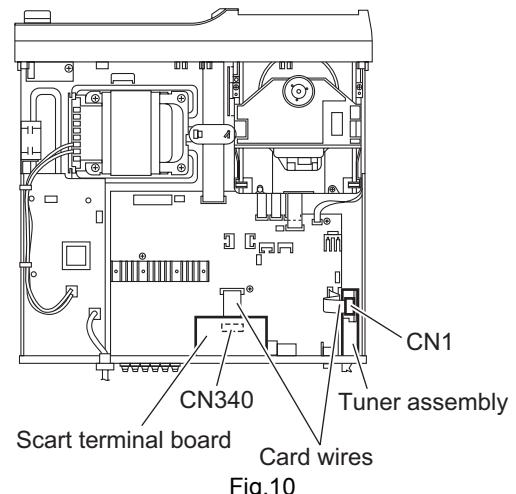

Fig.10
(See Figs.10 and 11)
- (1) From the top side of the main body, disconnect the card wire from the connector **CN1** on the tuner assembly. (See Fig.10.)
3.1.7 Removing the scart terminal board [B/E/EN/EV/EE version] (See Figs.10 and 11)
- (1) From the top side of the main body, disconnect the card wire from the connector **CN340** on the scart terminal board. (See Fig.10.)